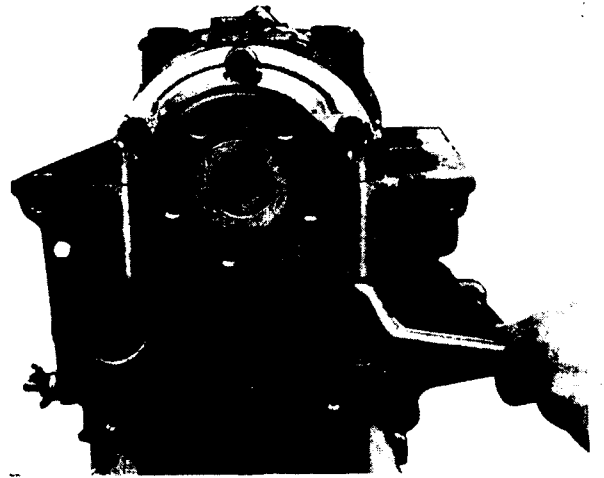

Fig. K.3.
NOTE : To enable the rear main bearing cap to be removed, first remove the two oil seal housing setscrews as shown in Fig. K.3.
1. Remove the two setscrews securing the two rear main bearing oil seal half housings as shown in Fig. K.3.
NOTE: The rear seal half housing setscrews will require removal to enable main bearing cap to be removed. (Refer to Fig. K.3).
6. Assemble half housings around crankshaft rear journal and fasten together by the two setscrews (See Fig. K.3).